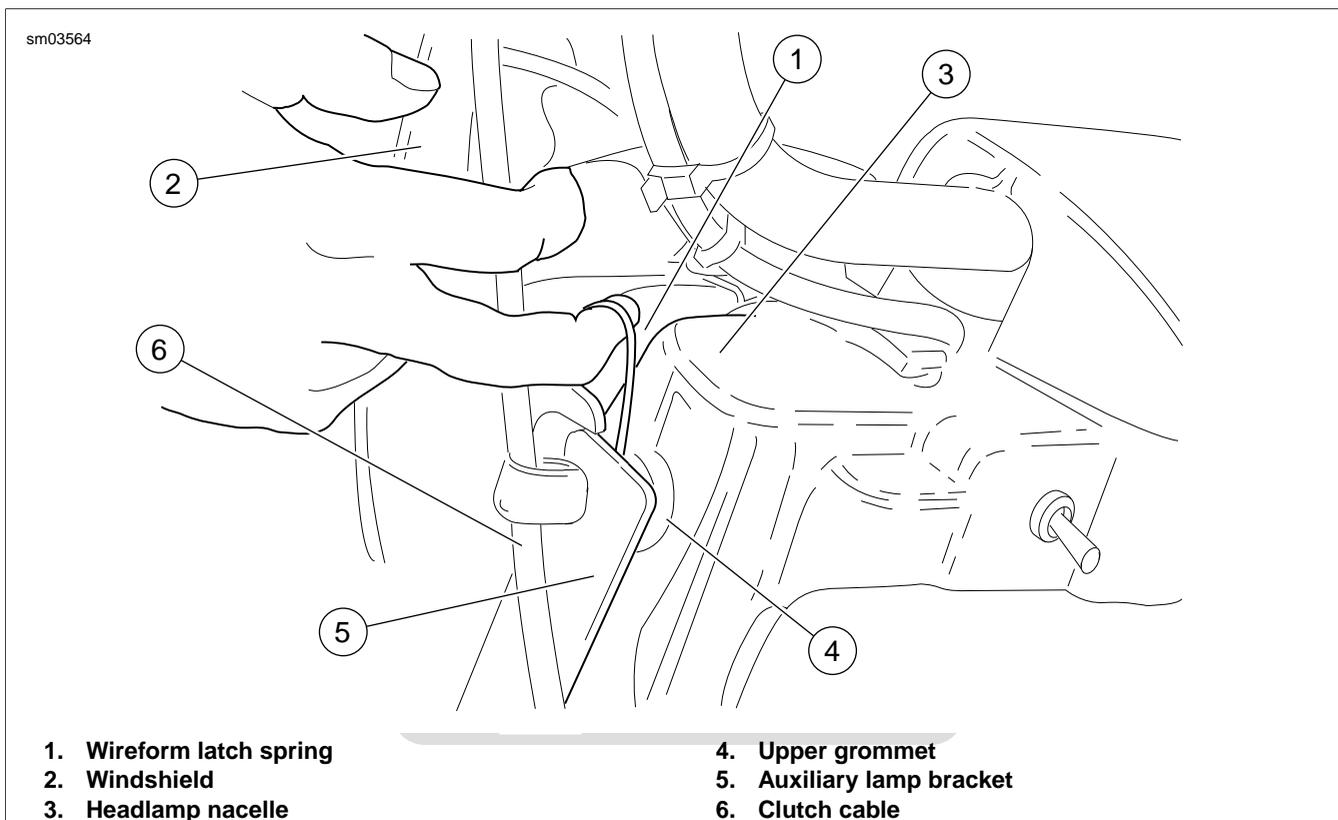

Figure 2-155. Windshield (FLHR/C)
1. See Figure 2-155. Standing at the front of the motorcycle, use a finger to raise the wireform latch springs on both sides of the windshield.
2. Gently push the top of the windshield toward the rear until the upper notches fully engage the upper grommets. See Figure 2-155.